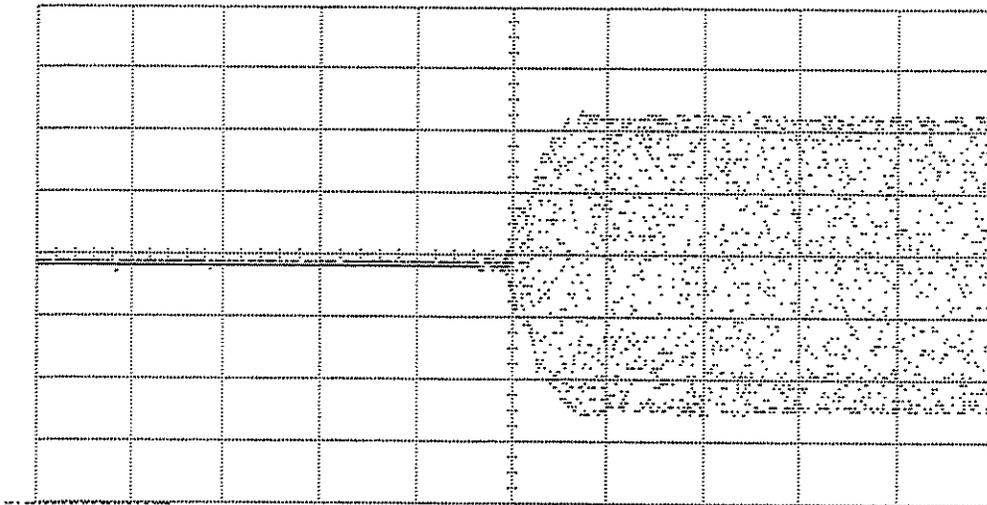

Figure 1-14. Pulse Risetime Measurement
1. Adjust the Signal Generator RF Output level so that the upper half of the envelope spans 2.5 vertical graticules as in Figure 1-14.
2. Adjust the oscilloscope's horizontal DELAY and vertical OFFSET functions in order to position the rising edge of the pulsed RF so that the 10% and 90% points cross horizontal graticules. Refer to Figure 1-14.